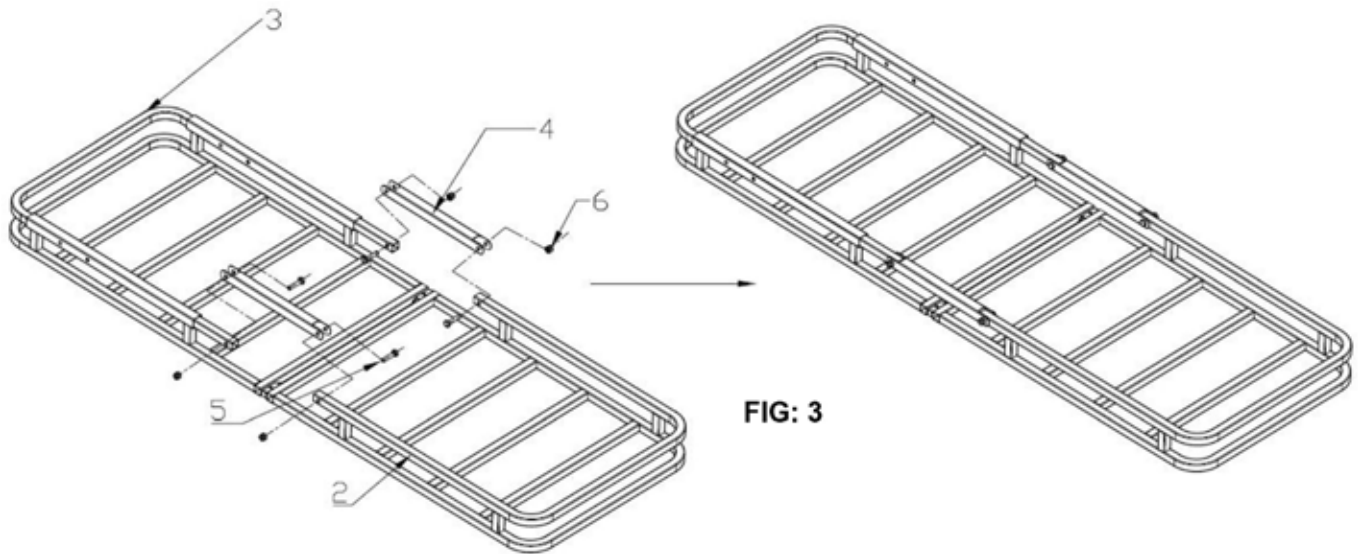

FIG: 3
3. Insert the connecting swivel tube (4) into the U-tube handle (3), align the hole position, and fix the U-tube handle with the connecting swivel tube using M8*35 outer hexagon bolts (5) (4Pcs) and M8 lock nut (6) (4Pcs). Fix the other end of the connecting swivel tube in the same way with right carrier frame (2). See FIG 3.